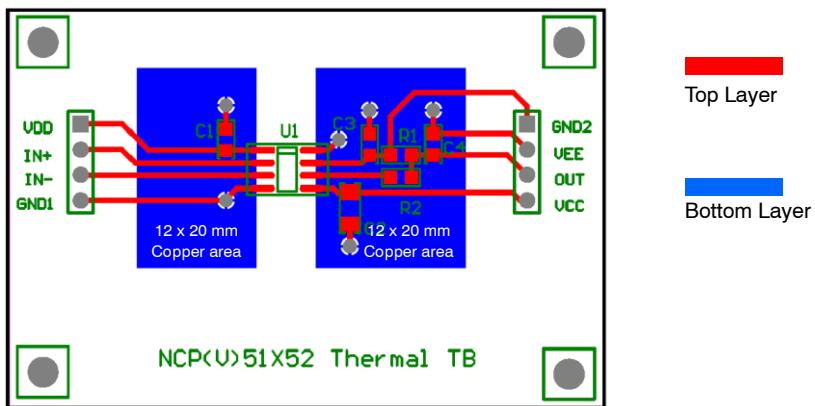

Figure 5. Reference Layout for the Type-A
8. As specified for a reference layout shown in Figure 5. The DUT is mounted on a 60 x 40 x 1.6mm FR4 substrate with an additional heat spreading copper of 240 mm2/300 mm2 (Primary/Secondary). The copper thickness is 1oz and test conditions is under natural convection or zero air flow.